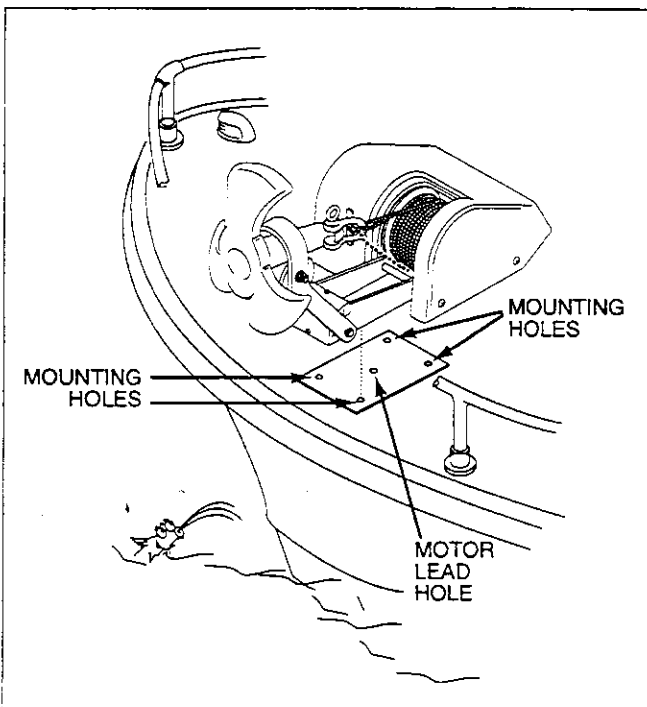

Figure 1 Mounting And Wiring Hole Locations
The windlass can be mounted on the fore (front) or aft (rear) of the boat. To mount the windlass, refer to Figure 1 and follow the procedures outlined below.
2. Spot and drill the holes as shown on the template. There are four 5/16" mounting holes and one 5/16" hole for the motor leads (See Figure 1).